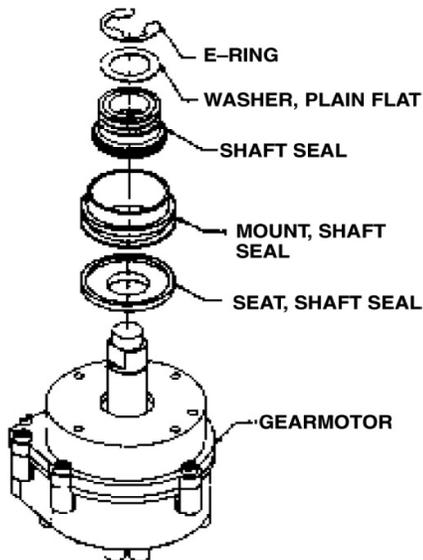

Figure 6. Shaft Seal Replacement
3. Check terminals 1 and 3 on overload. No continuity replace overload. Use a volt-ohm meter. See Figure 5 and Figure 6.
The resistance readings on the windings will be between 5 to 25 ohms. A meter capable of these low readings must be used. The Start Relay cover must be removed. **NOTE:** Gear motor and related components can be checked from Pin Connector. See Figure 5 and Figure 6.
INSTALLATION AND SHAFT SEAL REPLACEMENT (See Figure 6)